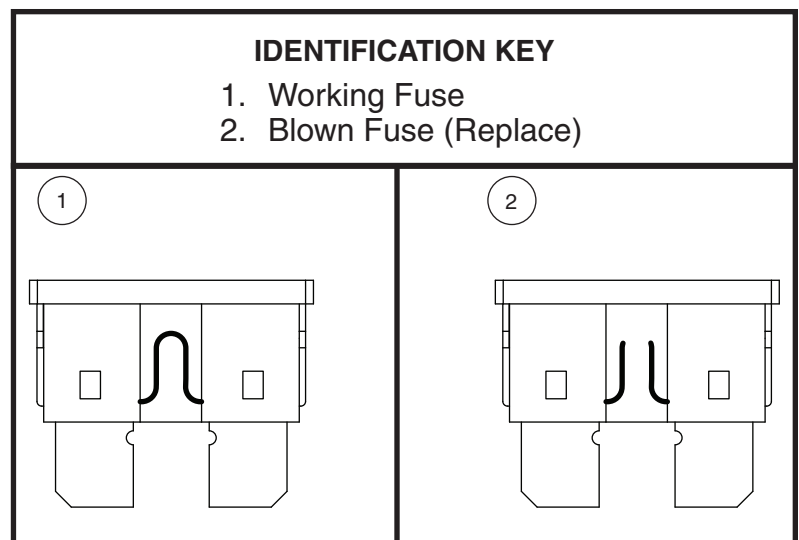

Figure 16. Fuse Replacement
2. Examine the fuse to be sure it is blown. **See figure 16.**